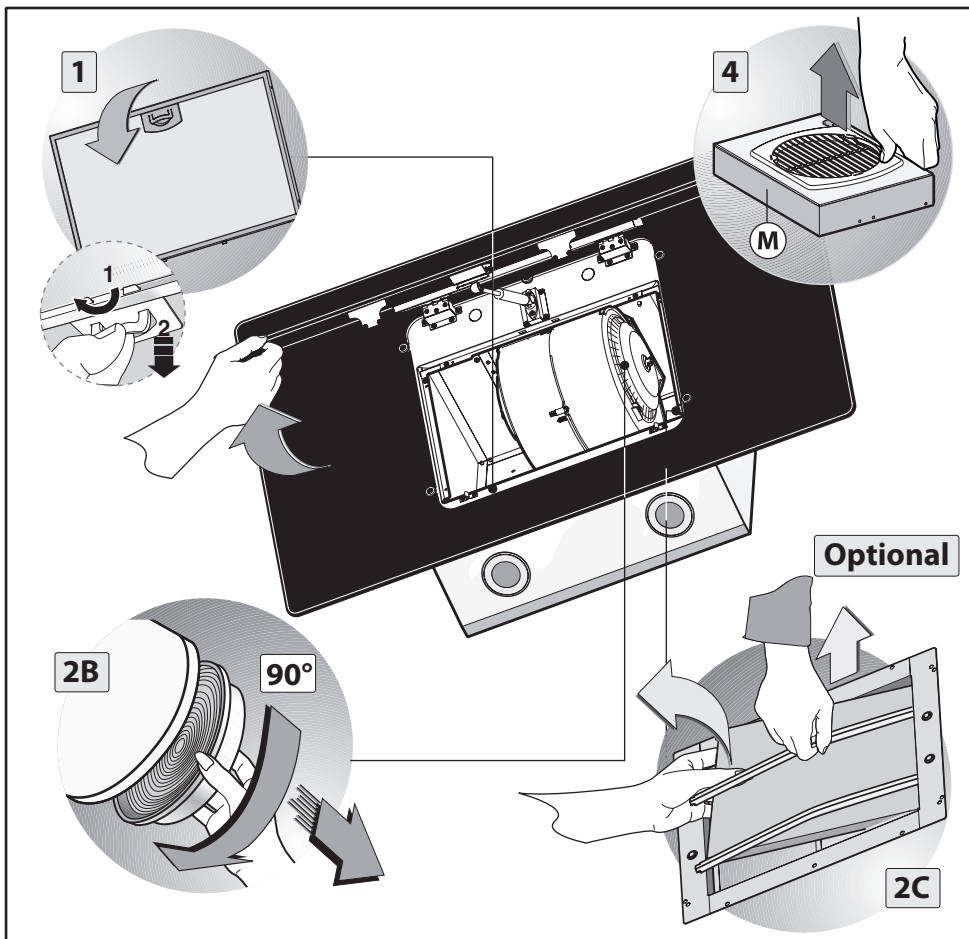

Fig.2
1. Remove the **anti-grease filter** **I** by pulling the handle, as shown in figure 2 - phase 1.
2. If the product is equipped with activated charcoal **filters (B-C)**, remove them as shown in figure 2 - phase 2B or 2C.
3. Unhook the small **cupola M** as shown in figure 2 - phase 4.